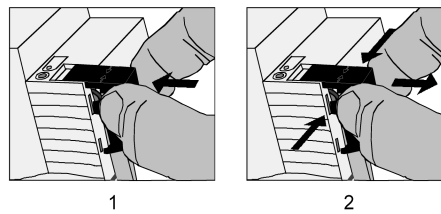

Figure 6: Installing / removing the protective cap for the bus connection
- To install the cap: Slide the cap over the bus connecting terminal until you feel it engage (Figure 6).
- To remove the cap: Remove the cap by pressing the sides slightly and by pulling it out to the front (Figure 6).